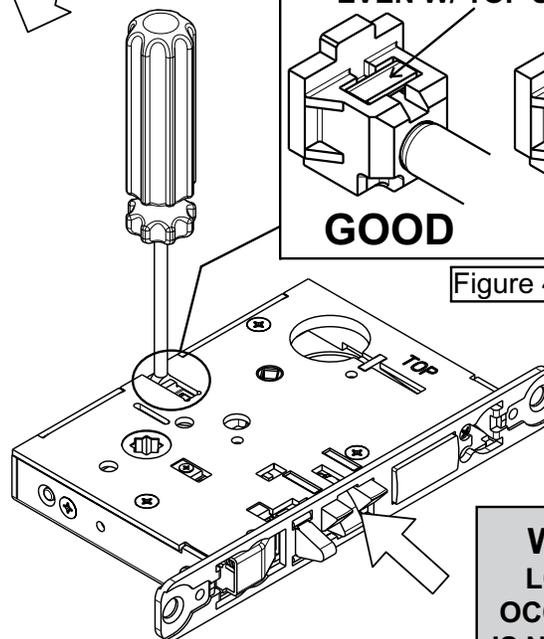

Figure 3
Step 4) Push in latch while holding screw driver behind latch tail (Fig. 3)